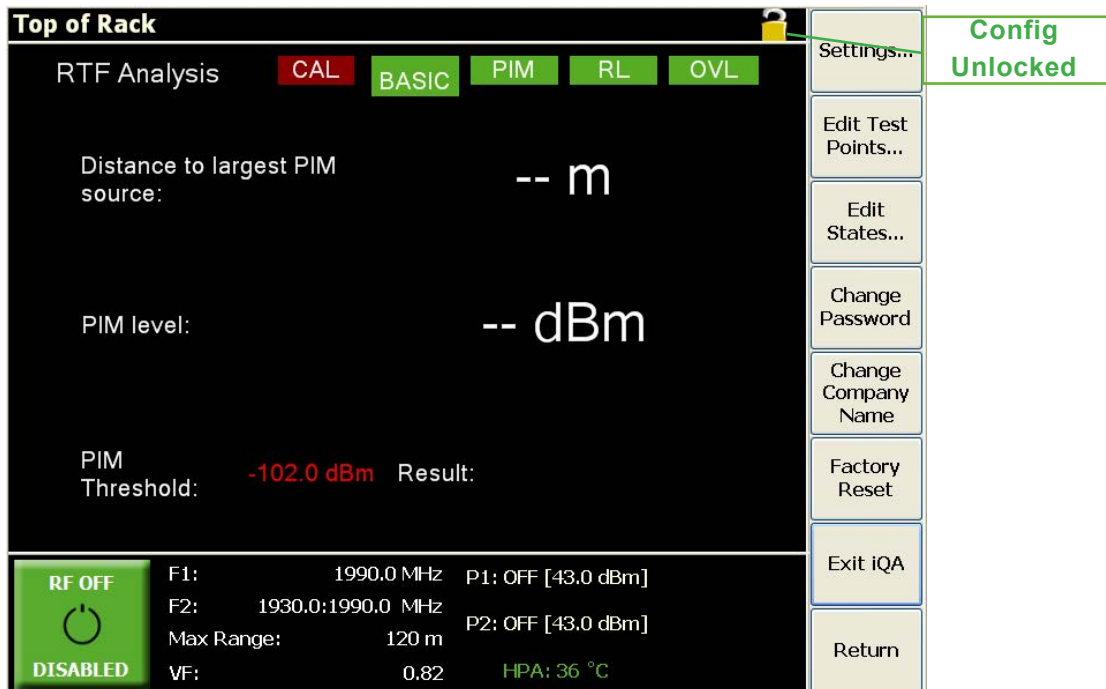

Figure 39 Configuration Mode window
2. Type in the password and press Enter. The screen will now switch to Configuration Mode, indicated by the Config Unlocked indicator at the top of the screen, as shown in Figure 39.